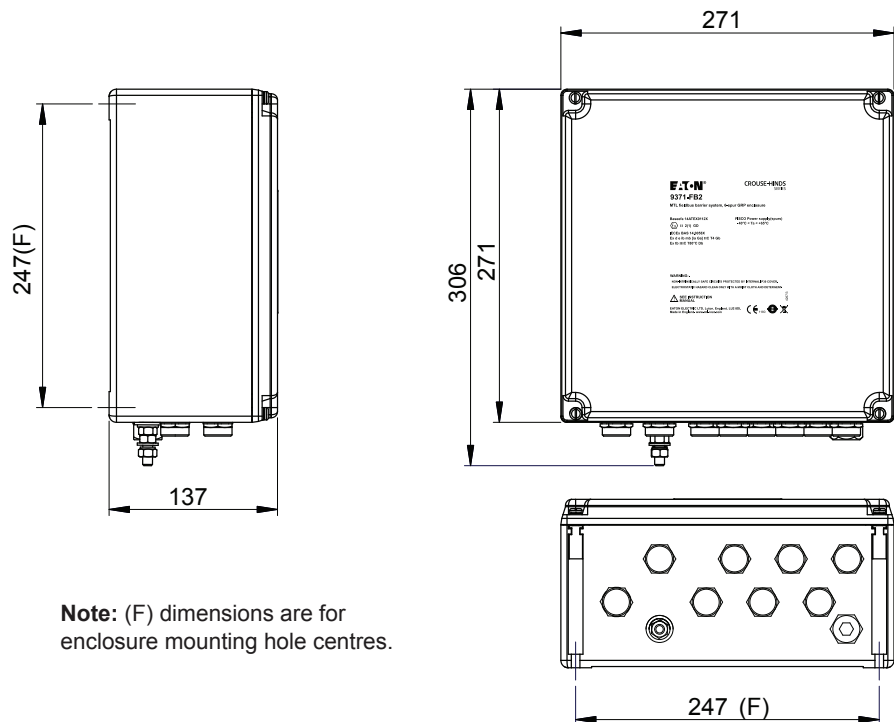

Figure 3.1 – External dimensions and mounting hole positions for the 6-way enclosure 9371-FB2-Px-PP
See Figures 3.1 and 3.2 for the dimensions, fixing locations and cable gland positions for both enclosure models.
- c) The enclosure is designed for mounting on a vertical surface, with the cable entry at the lowest point, as shown in the upper part of Figure 3.1 or Figure 3.2.
Mark hole positions as shown in Figures 3.1 or 3.2.
- a) It is recommended that a washer, not exceeding the 12mm diameter specified in Figures 3.1 and 3.2, is placed under the head of each of the bolts used to fix the enclosure to its mounting surface.